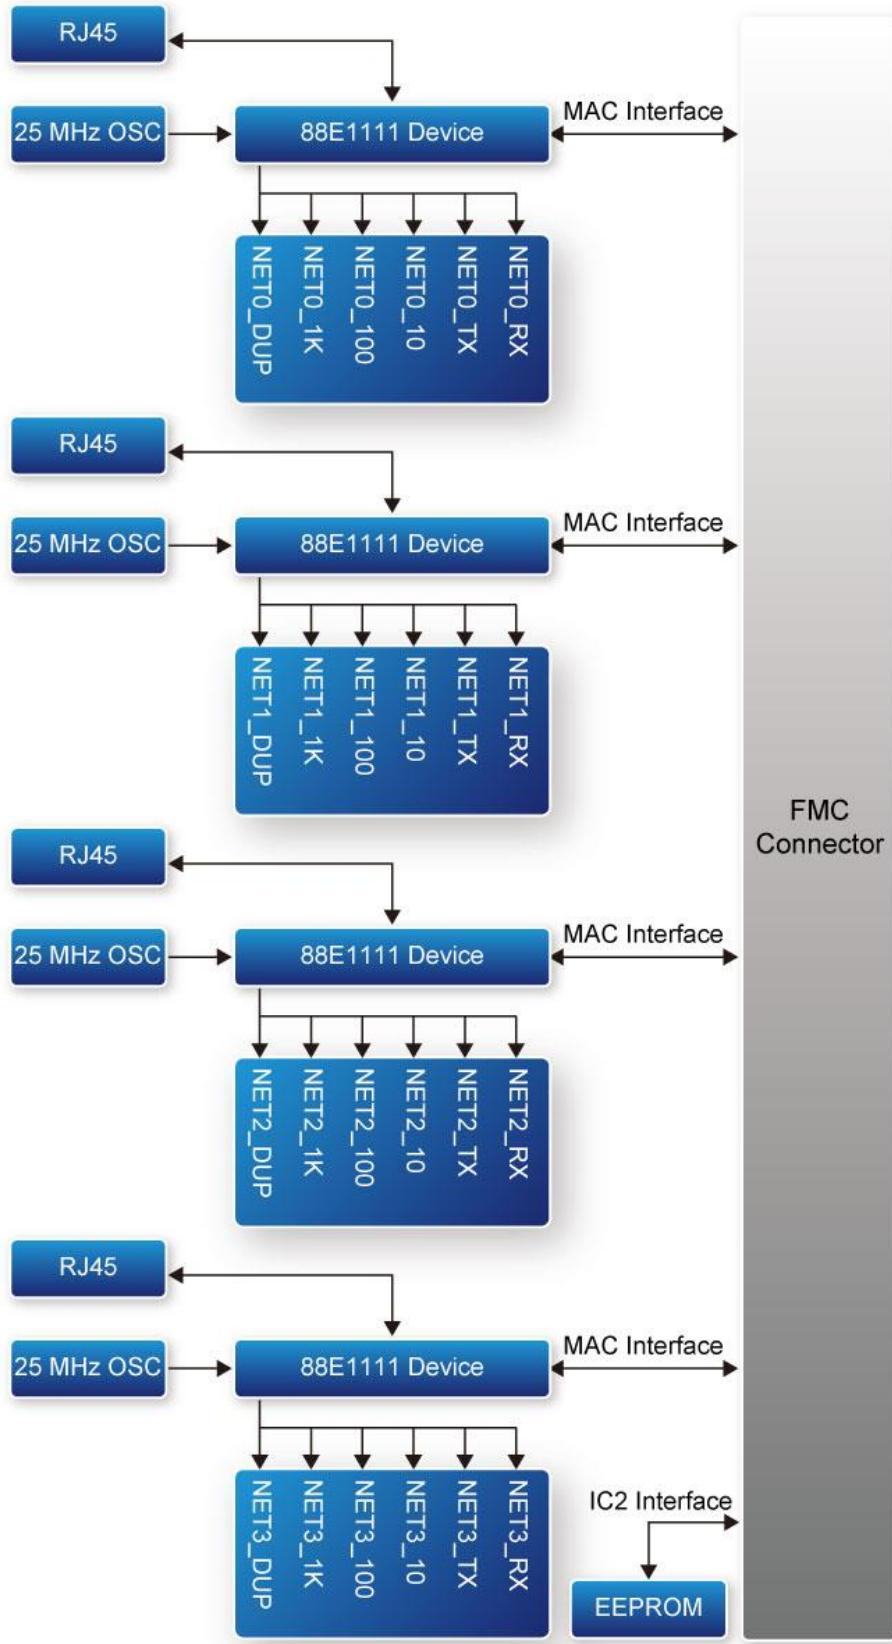

Figure 2-3 Block Diagram of NET-FMC Board
**Figure 2-3** shows the NET-FMC Block Diagram. Four 25 MHz reference clock driven from dedicated oscillator are required for Ethernet PHY 88E1111. FMC Connector transmit the data between host board and Ethernet PHY 88E1111 through MAC interface. Also, four-port integrated 10/100/1000 Gigabit Ethernet Transceiver supported SGMII/GMII/MII/RGMII MAC interfaces is installed for direct connection to a MAC/Switch port. There are four group LEDs indicating the link status.